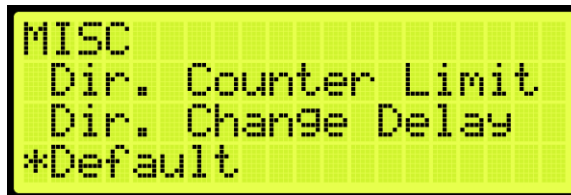

Figure 459: MISCELLANEOUS Menu – Default
- From the MISCELLANEOUS menu, scroll and select Default (See Figure 459).
2. From the MISCELLANEOUS menu, scroll and select Default (See Figure 459).